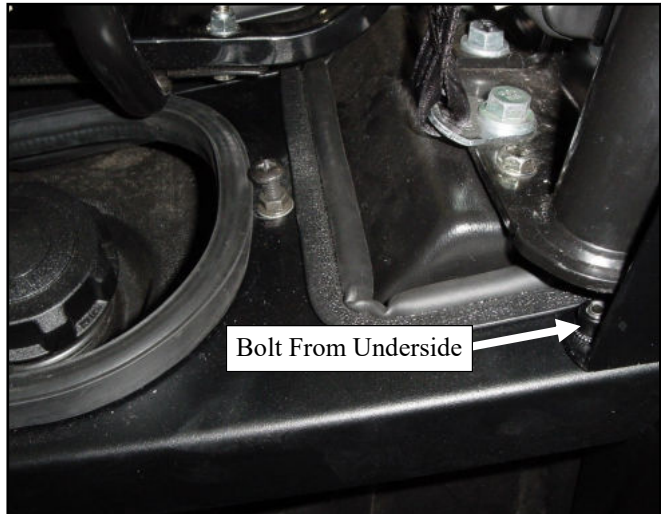

Fig. 9.1 (view of fuel tank shroud)
9.1 Install the fuel tank shroud as shown in figure 9.1. Loosely fasten to the middle panel using the hardware listed below. **Do not tighten at this time.**